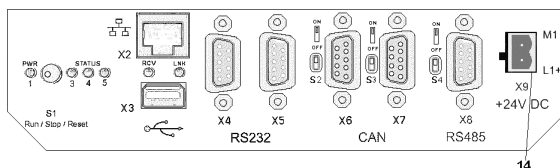

Fig. 18: Power supply
1. **Connect the power supply:** Connect the power supply line with the interface X9 on the rear of the device (Fig. 18 / Pos. 14).